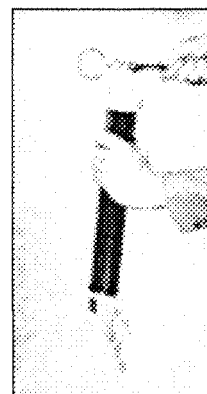

Fig. 3.
2. Unscrew cap, *Fig. 3*, and unlatch the spring, allowing it to slide out.
5. Screw cap in place and tighten, *Fig. 3*.